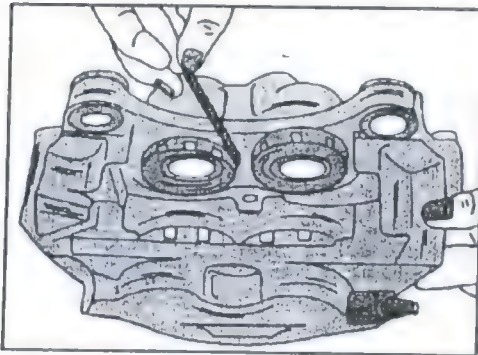

Fig. 7.11 – Cylinder sealing rings are lifted out with a small blunt instrument.
- Remove the sealing ring out of the cylinder bores as shown in Fig. 7.11, using a blunt instrument.